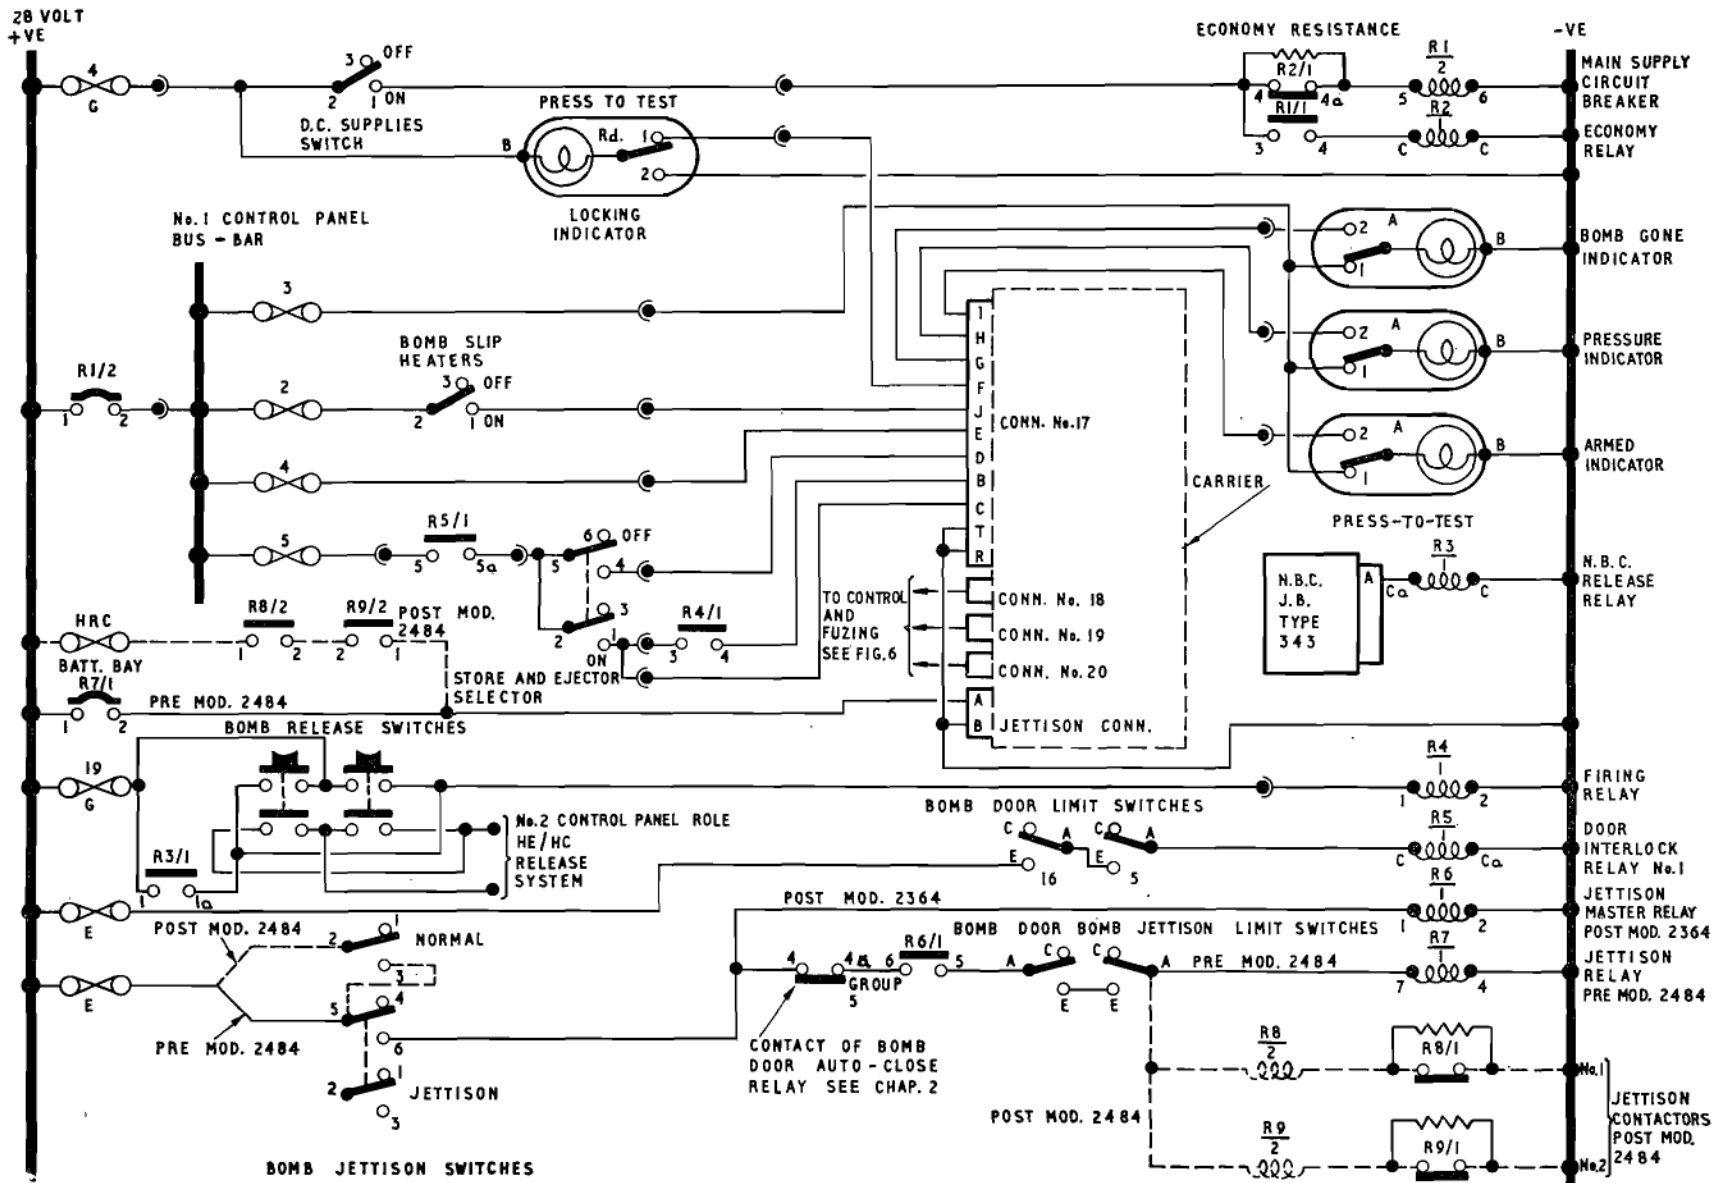

Fig. 9. No. 1 control panel role bomb control release (Mods. 2612, 2645, 2646 or 2725 and 2609)
ALTERNATIVE STORE (No. 1 CONTROL PANEL ROLE) (fig. 9)
N.B.S. Release (fig. 9)
Indicators (fig. 9)
Jettison release (fig. 9)
Post Mod. 2484 (fig. 9)